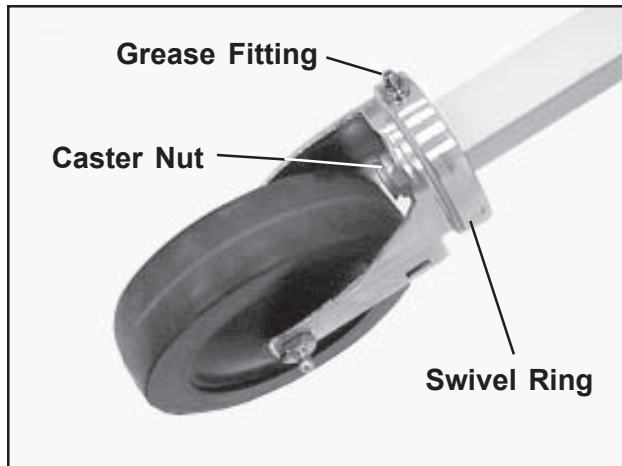

Figure 33. Removing a Caster
3. With a 3/4 in. open-end wrench, unscrew the old caster nut two or three full turns (Figure 33).